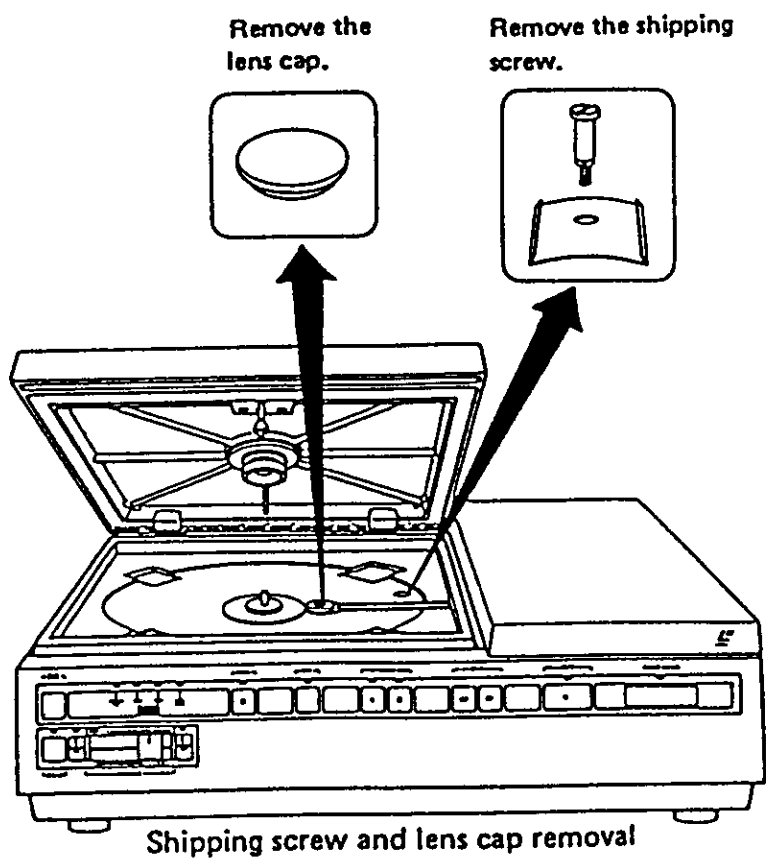

FIG. 1
12. To prevent possible damage to the internal mechanism of the disk player during shipment, a shipping screw is placed beside the center shaft at the factory (see Fig. 1). It is necessary now to remove the screw, together with the screw plate below it. Next, remove the gray lens cap which is placed over the lens (just to the right of the center shaft) to protect the lens from dust and dirt during shipment. (see Fig. 1).